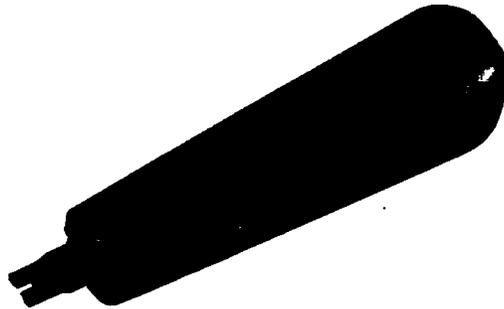

Figure 8. 833A Insertion Tool
2.14 The 833A insertion tool (Comcode 102962255, Figure 8) is used for seating and cutting individual 22-gauge (0.6 mm) irradiated polyvinyl chloride (IPVC) cross-connect wire on the 93-type connecting block.